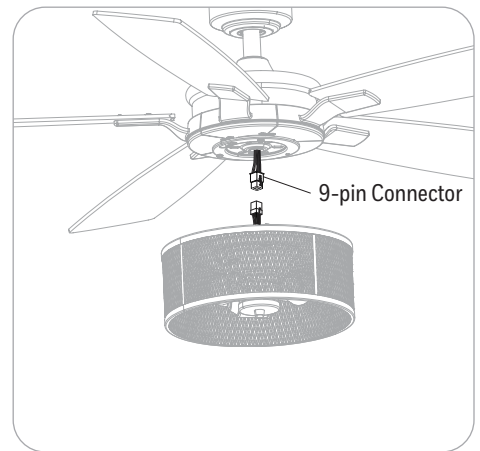

Figure 5.6
6. Remove one of the three fitter plate screws from the fitter plate and loosen the other two. Then, connect the 9-pin connector from the fan to the 9-pin connector from the light kit (Figure 5.6).